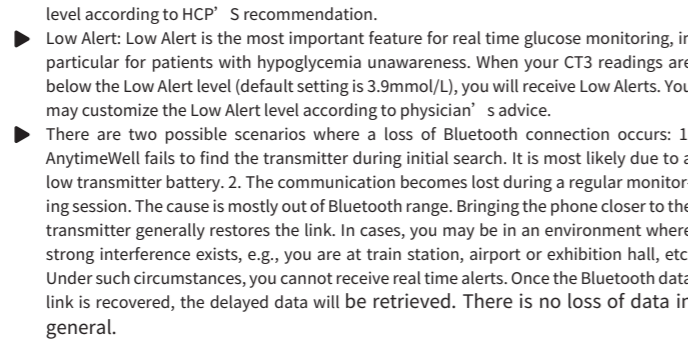

Figure 42 Follower Settings
- Set up your Followers. Tap the arrow on the right of the Follower to enter settings where you can set up notes, and not Share, as shown in Figure 42.